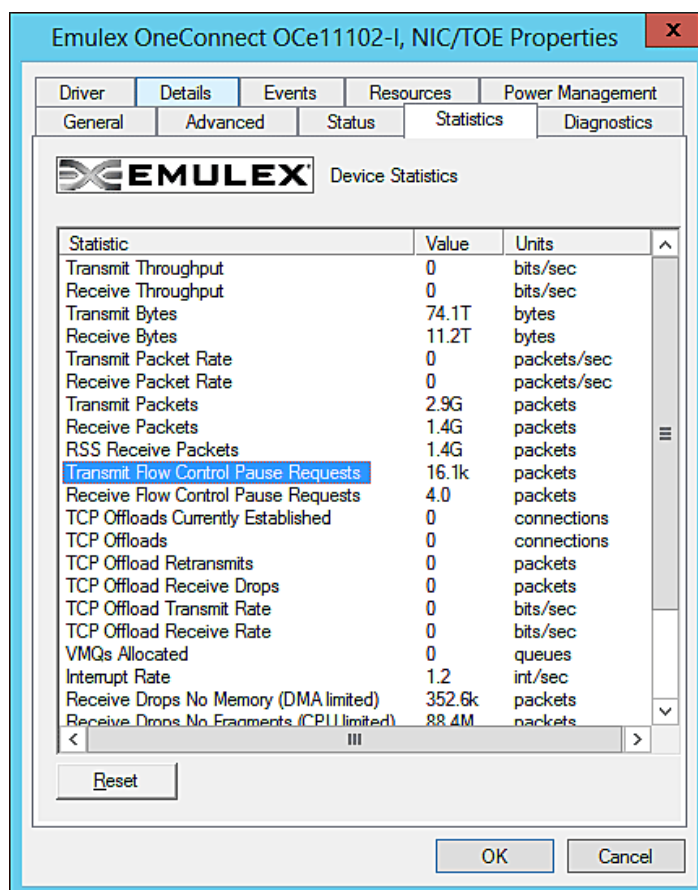

Figure 3-3 NIC Statistics Properties in Windows Server 2008
3. Click **Properties**, then click the **Statistics** tab (see Figure 3-3 on page 68).